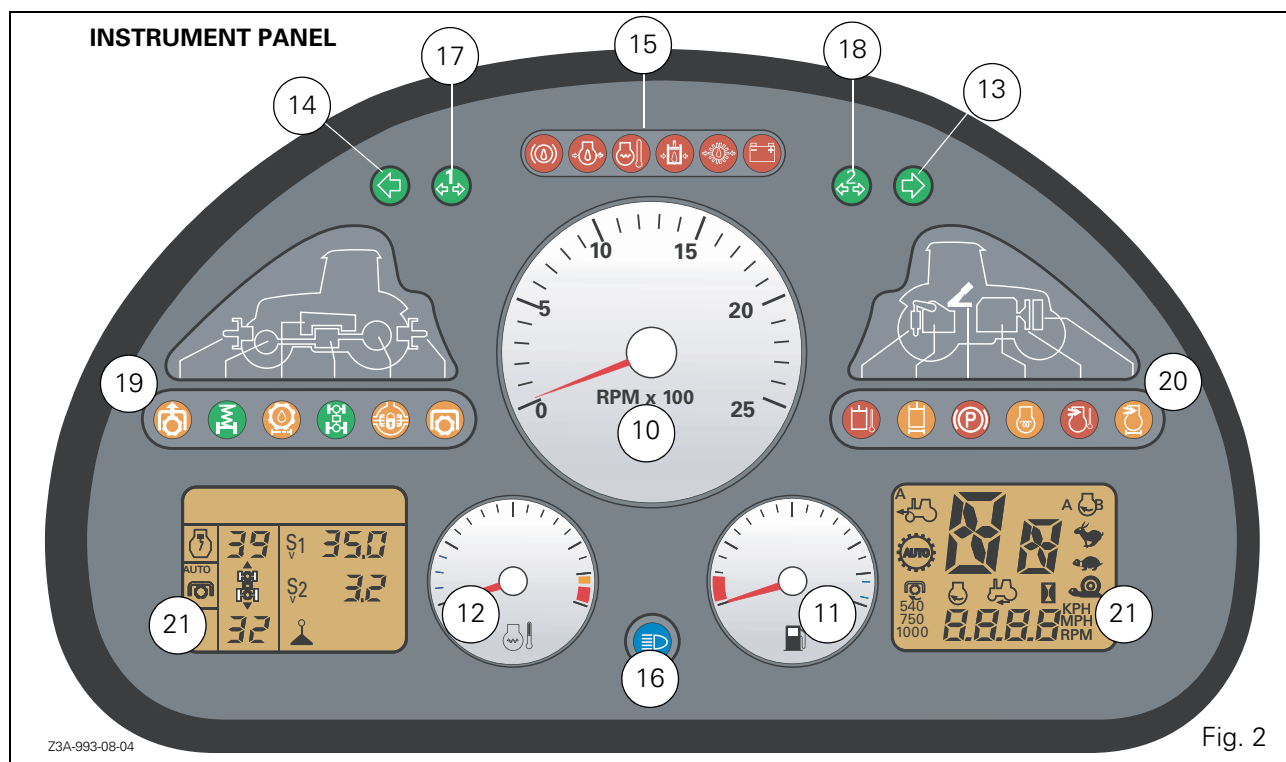

Fig. 2
5. Parameter display selector (Ref. 21, Fig. 2).
Instrument panel (Fig. 2)